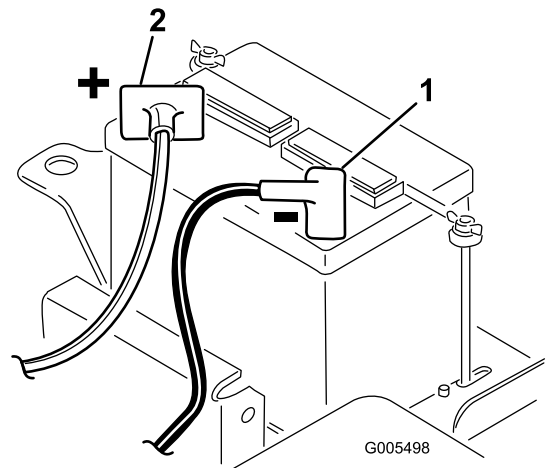

Figure 5
2. Connect the positive battery cable (red) from the starter solenoid to the positive post (+) of the battery (Figure 5). Secure it with a wrench and coat the terminal with petroleum jelly. Make sure the cable will clear the seat, in the rear-most position, which could cause wear or damage to the cable.